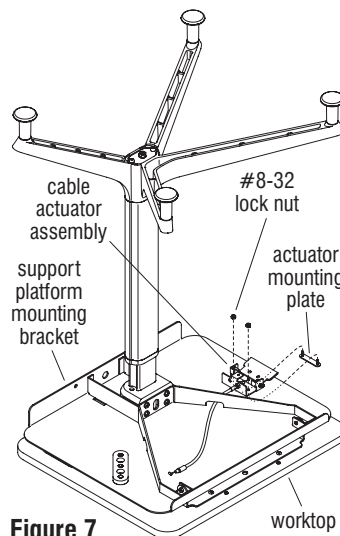

Figure 7
3. Locate and position the actuator mounting plate with the studs face-up, then move it into position between the worktop, and the worktop support platform as illustrated. You may need to raise the support platform slightly to insert the studs of the actuator mounting plate through the mounting holes in the support platform. Then move the cable actuator assembly into position, placing the actuator assembly mounting holes onto the studs of the mounting plate. Using two #8-32 lock nuts, secure the actuator assembly to the underside of the worktop support platform using a $\frac{7}{16}$ " socket and wrench (Figure 7 & Detail G).